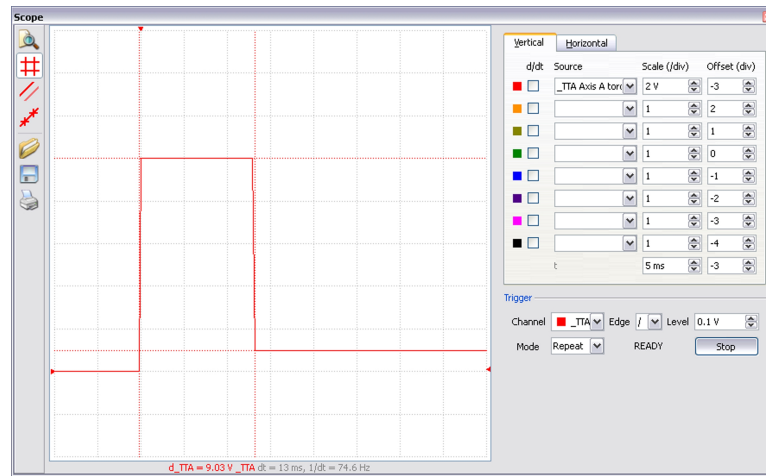

Figure A1.2: Peak Current Operation
The gain is set with the AG command as shown in Table A1.1 for AG  $n=m$ . Select the amplifier gain that is appropriate for the motor. The gain settings for the amplifier are identical for the brush and brushless operation. The amplifier gain command (AG) can be set to 0, 1, or 2 corresponding to 0.4, 0.7, and 1.0 A/V. In addition to the gain, peak and continuous torque limits can be set through TK and TL respectively. The TK and TL values are entered in volts on an axis by axis basis. The peak limit will set the maximum voltage that will be output from the controller to the amplifier. The continuous current will set what the maximum average current is over a one second interval. Figure A1.2 is indicative of the operation of the continuous and peak operation. In this figure, the continuous limit was configured for 2 volts, and the peak limit was configured for 10 volts.